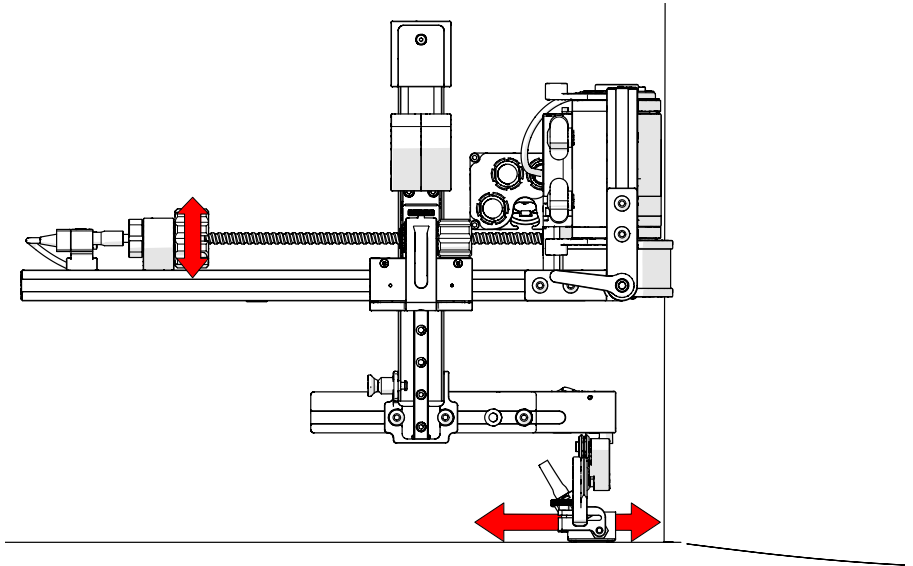

Fig. 200 - Adjust the slider PPS as required
4. Adjust the Slider PPS as required (*Fig. 200*) to position the probes distance from the weld.